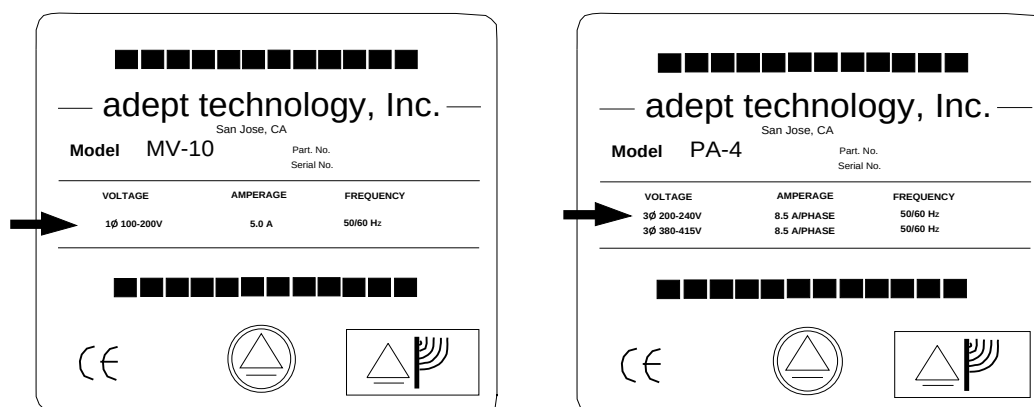

Figure 5-7. Location of Power Labels
5. Clearly mark or alter the ID label on the side of the Security Panel to show the new voltage configuration (see Figure 5-7 on page 102).
4. Clearly mark or alter the ID label on the side of the PA-4 power chassis to show the new voltage configuration (see Figure 5-7 on page 102).